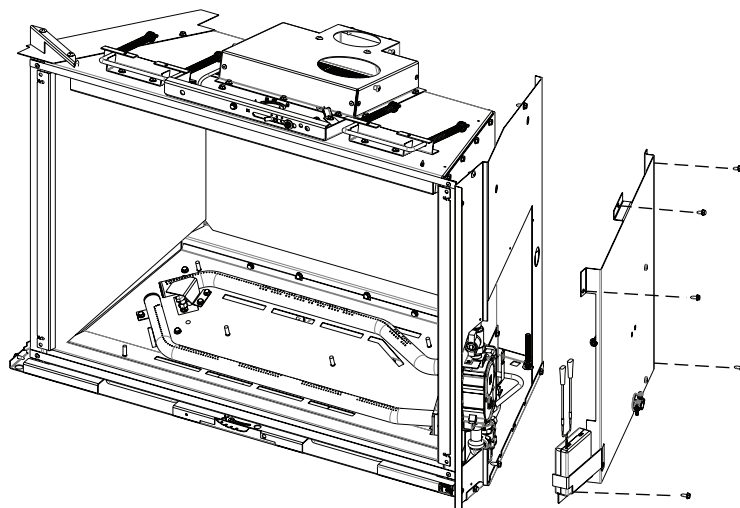

Figure 7
8. Remove 5 screws holding right shield and pull right shield aside, be careful since it has several wire harnesses still attached to unit. **See Figure 7.**